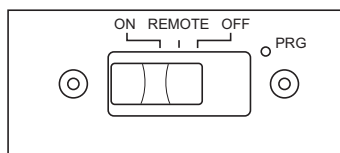

Figure 25 - Remote Selector Switch in ON Position
10. Wait one minute and switch selector switch to the ON position to light burners (see Figure 25). When using in the ON position (without remote) burners will light on high. There is no adjustment to the flames without using remote.